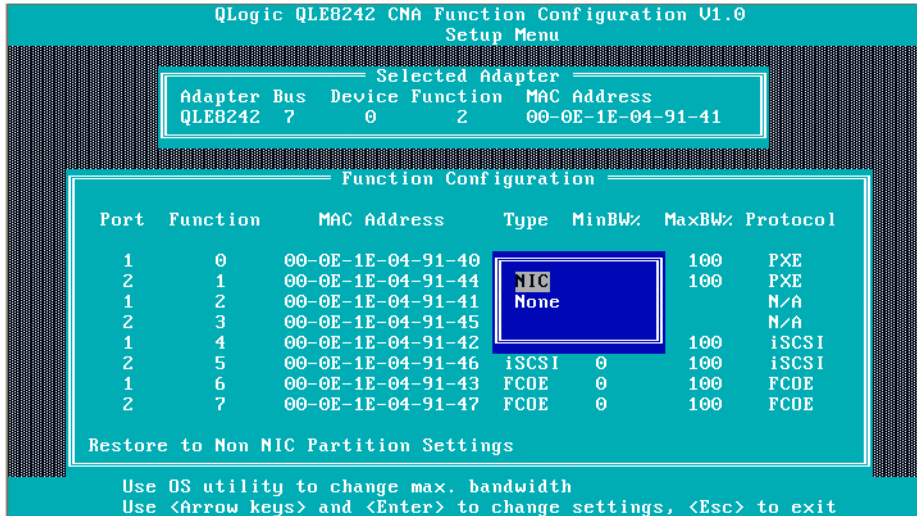

Figure 2-25. Selecting NIC Function Type to Change
3. Move your cursor to the **Type** column for any function type you want to change (Figures 2-25 through 2-27).